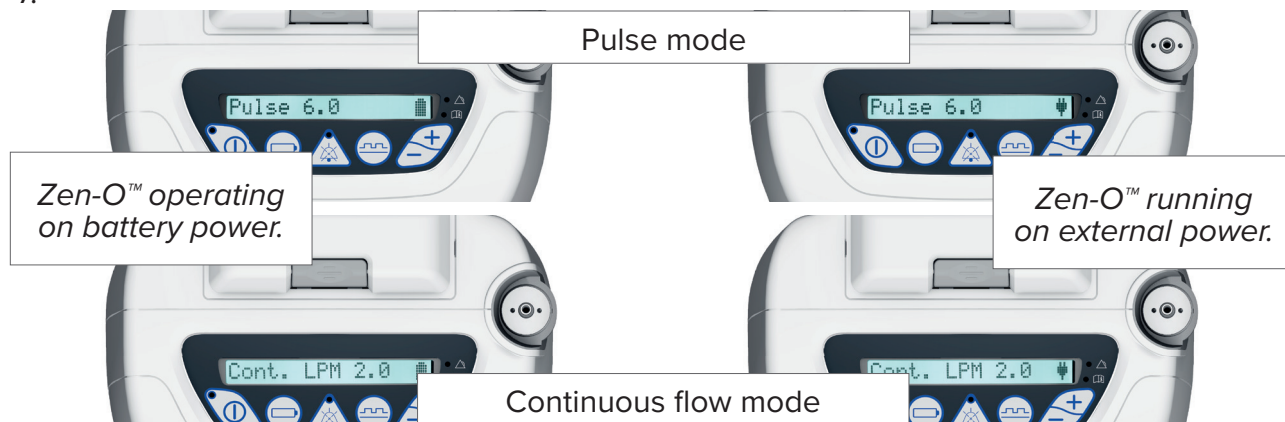

Fig. 7
*IMPORTANT: Ensure power status icon (see Fig. 7) indicates power is connected. If not, check that cord is plugged in completely. (See Chapter 10 - Troubleshooting for more information.)*
The current setting and power source (external power or battery; battery icon also shows approximate level of charge remaining) are shown on the display screen as shown in Fig. 7.